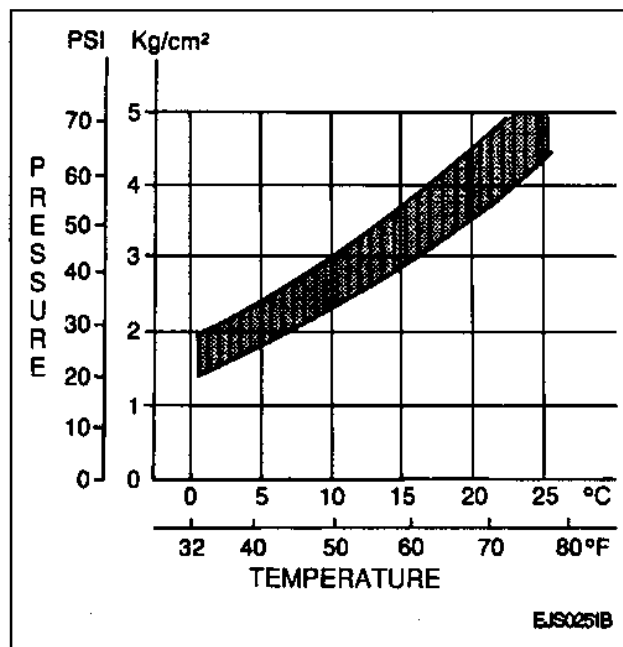

Figure 29—Expansion Valve Pressure/Temperature Relationship Chart
- G. The pressure/temperature relationship should fall within the specifications shown in Figure 29. If it does not, the expansion valve should be replaced.